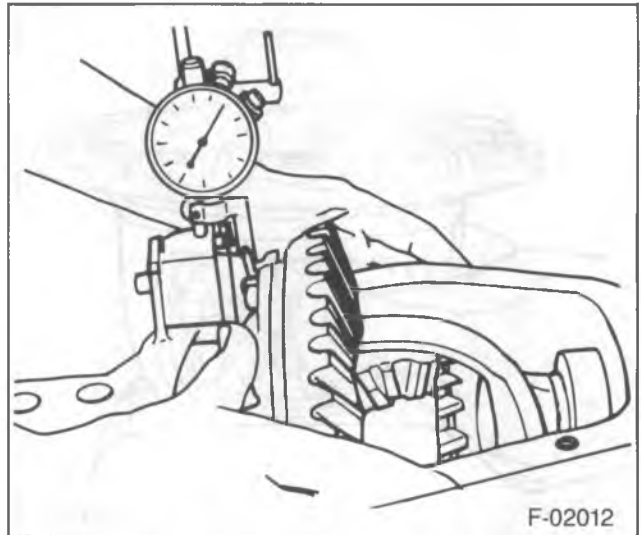

Figure 62—Determining Differential Shim Pack
1. Assemble the differential case (22) to the axle housing. The pinion must not be installed.
2. Mount a dial indicator having a minimum travel of 0.200-inch with a magnetic base on the ring gear bolt side of the housing (figure 62).
10. Remove the spacer (43) from the housing.